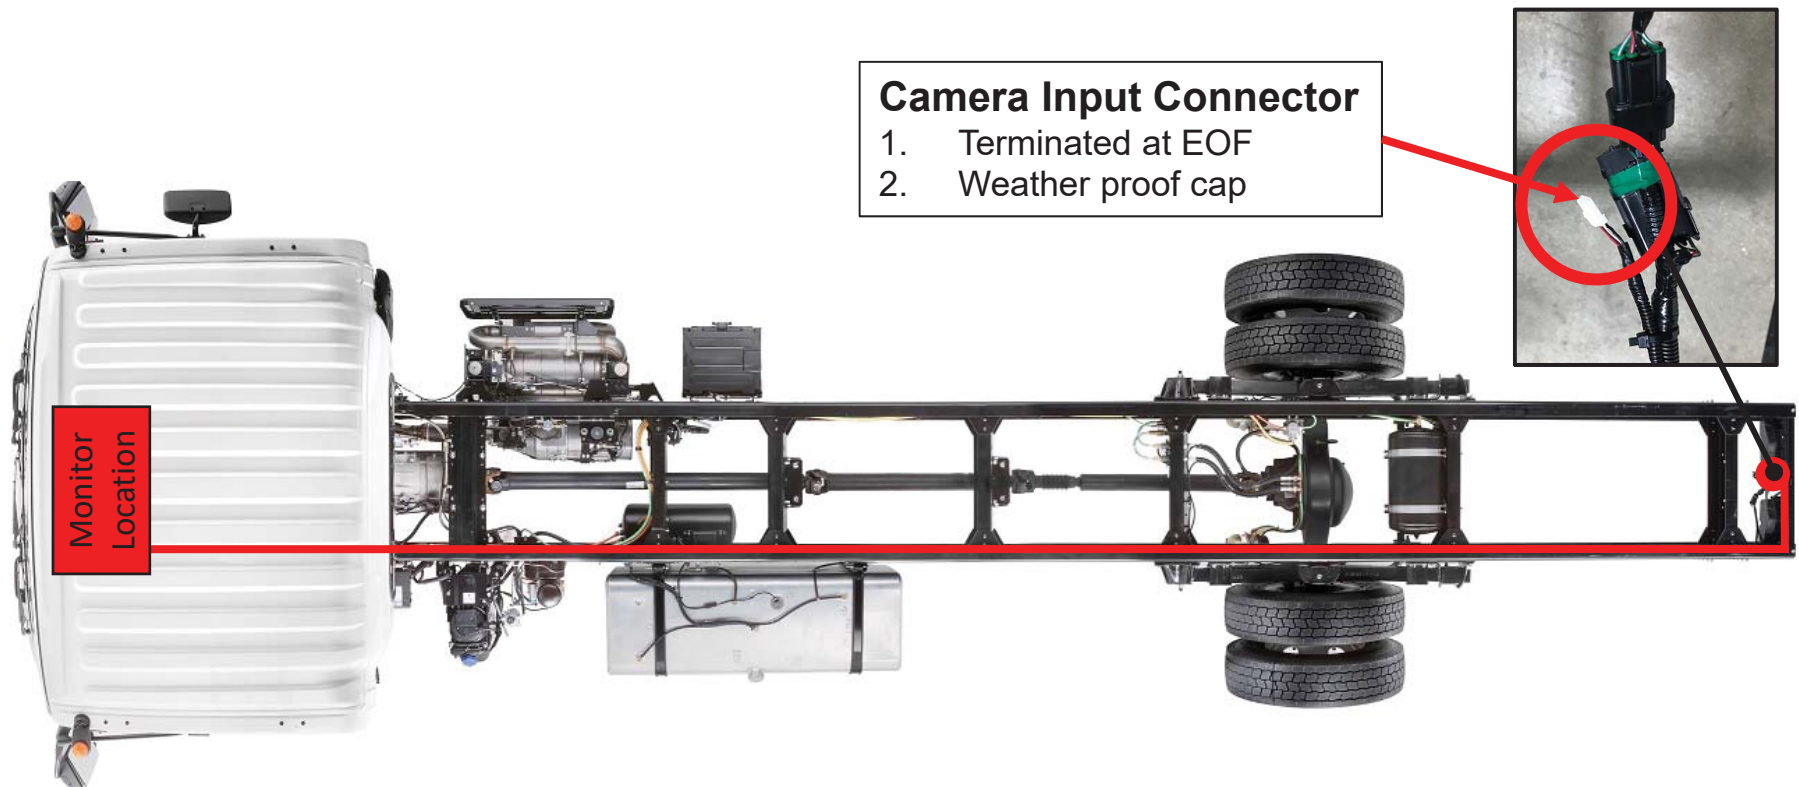

Figure 5 – Camera Installation Overview
- RPO codes I1V (Audio system with 7" diagonal color touch screen) and I2V (Audio system with 7" diagonal color touch screen with backup camera) will both include a pre-wired camera input connection at the end of the chassis frame. (Figure 5)